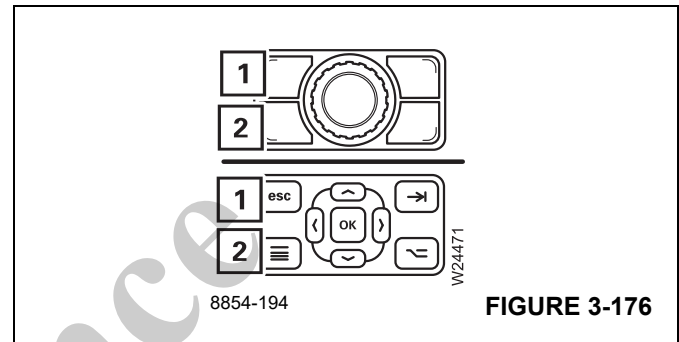

FIGURE 3-176
| Press button (1): | The opened menu is closed – the main menu is opened (Figure 3-176)Input mode is deactivated     |